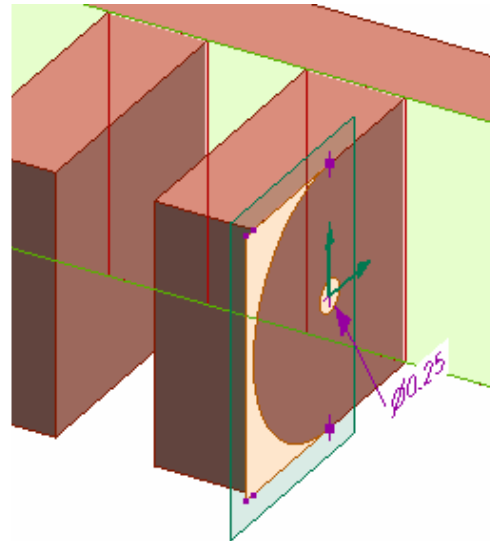

Figure 42. Profile for hole and round.
90. Delete unnecessary lines so that you have a valid, filled profile for the ¼" hole and the two corners. This should look like figure 42. Notice that the filled area extends over the end of the arm.